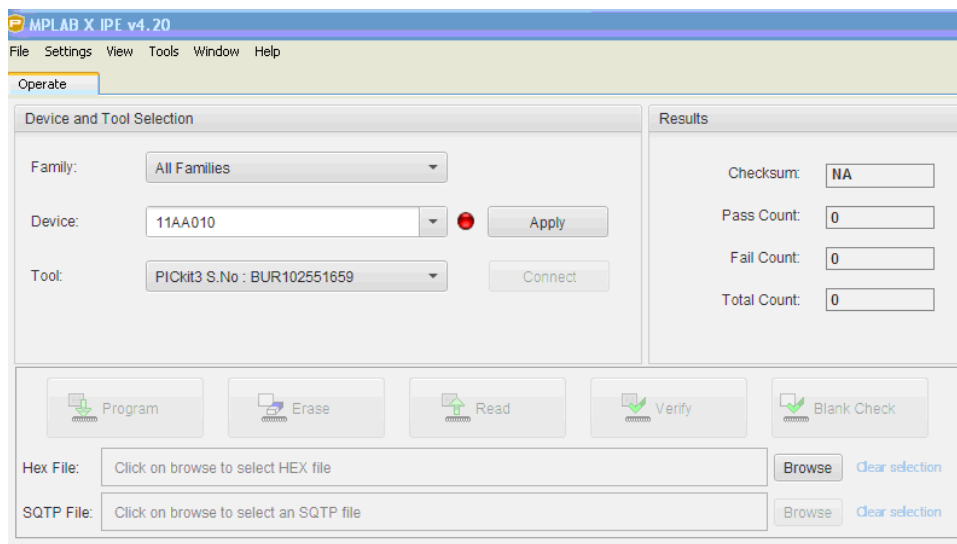

FIGURE 3. IPE APPLICATION, MAIN WINDOW
4. Start the IPE application. The IPE main screen is shown in Figure 3. Verify that the Tool drop-down, under Device and Tool Detection at the left reads: